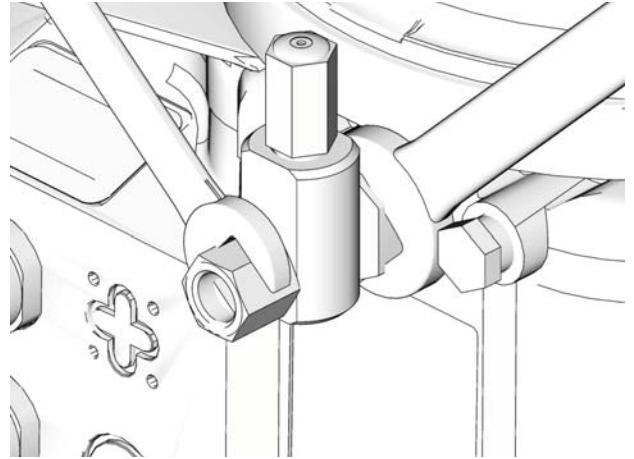

FIG. 9
1. Loosen pump element fitting (FIG. 9).
3. Tighten pump element fitting using two wrenches working in opposite directions (FIG. 9).